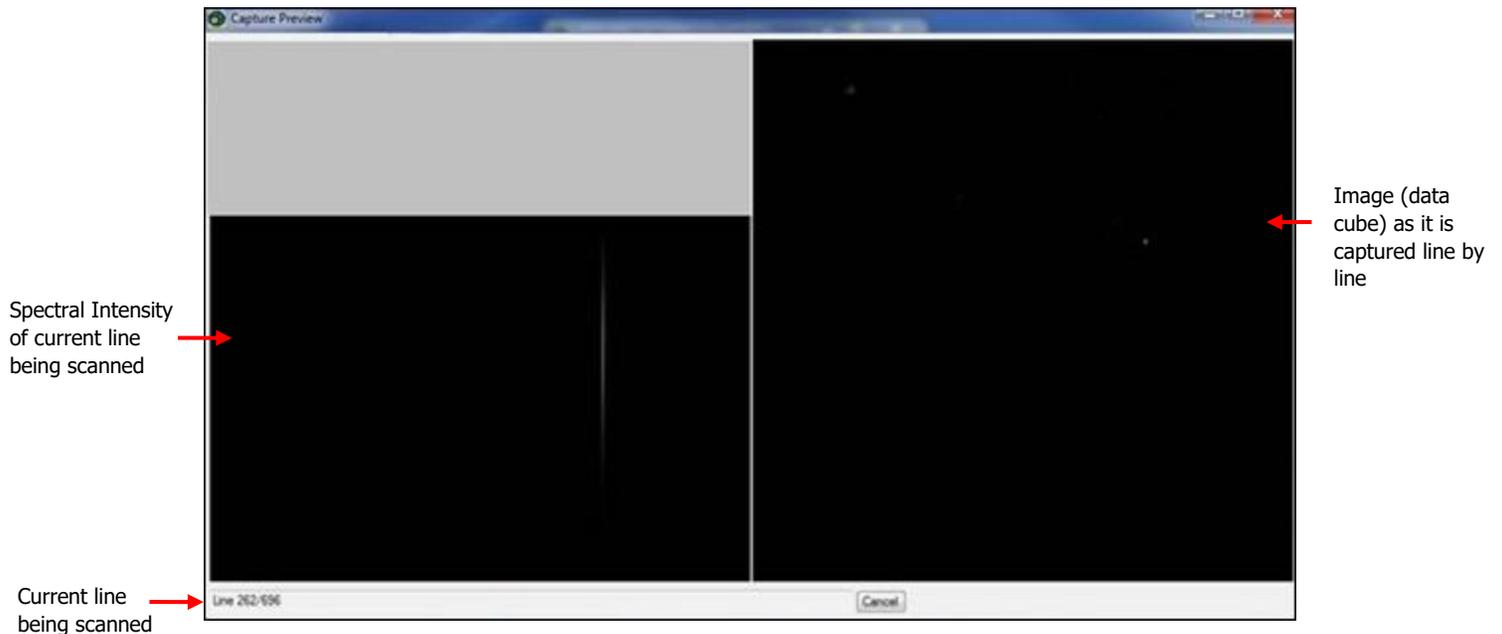

Figure 2.2h
- A window will appear which shows the data cube being built in real-time as well as an associated spectral intensity graph (Figure 2.2h). The stage moves to the beginning of the scanning area and then the individual lines of the HSI image are acquired, until the stage has moved to the end of the scan area.